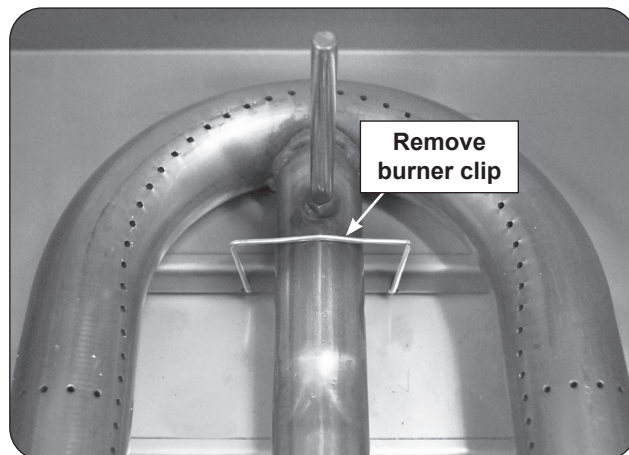

Fig. 41-2 Main burner removal
2. Locate the burner clip (located over the rear center tube of the burner) and slightly pinch and remove the clip from the burner support. See Fig. 41-2.